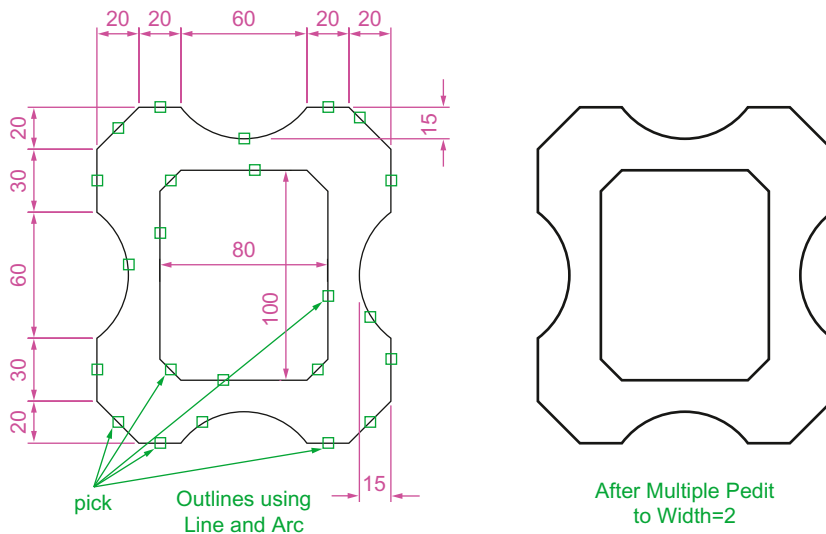

Fig. 3.43 Example – Multiple Polyline Edit
Example – Multiple Polyline Edit (Fig. 3.43)
1. With the **Polyline** tool construct the left-hand outlines of Fig. 3.43.
The result is shown in the right-hand drawing of Fig. 3.43.